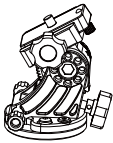

Fig 4
**Without Tilt-head:** take a standard photo tripod or video tripod with a 3/8" connection screw. Spread the legs and secure the tripod legs at the desired height to provide a stable support for your **Star Adventurer** . Assemble **Equatorial Wedge** to the tripod as Fig 4.